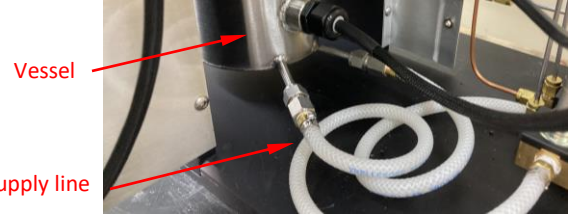

Figure 5
- e. Using two 9/16" wrenches attach the water supply line to the back of the vessel. See Figure 5.